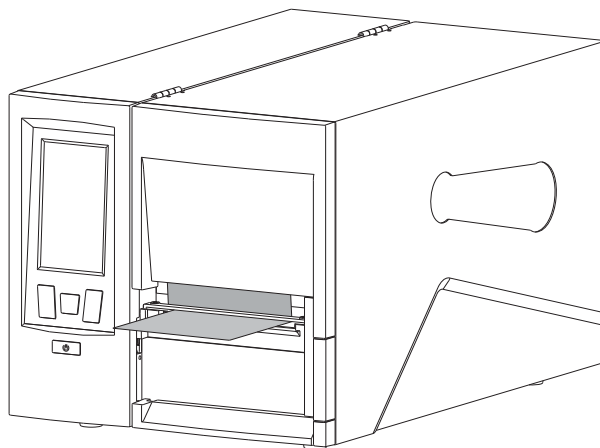

Figure 2-22 Close the Flip-up Cover
9. Close the flip-up cover. Enter the LCD touchscreen settings menu, and set the printed label handling mode to Tear-off Mode (please refer to 3.2.1.7 Printed Label Handling). As shown in Figure 2-22.